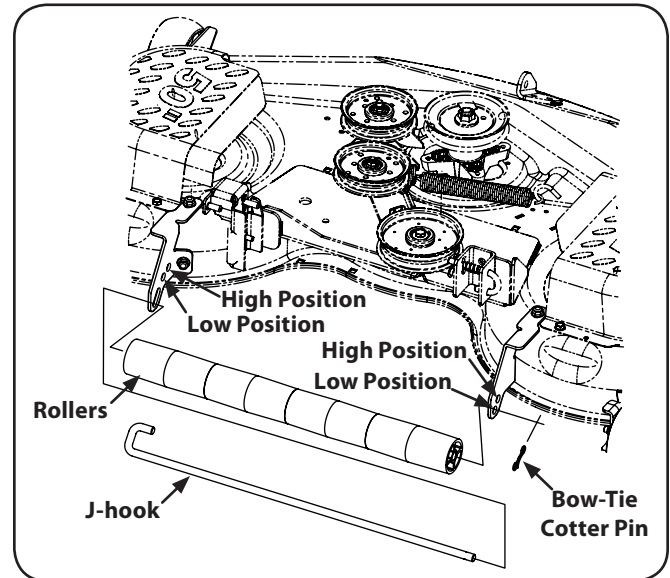

Figure 6-9
1. To change the height of the rollers, remove the bow-tie cotter pin and slide the J-hook out until the end is out of current height setting hole on the right side of the roller bracket. See Figure 6-9.